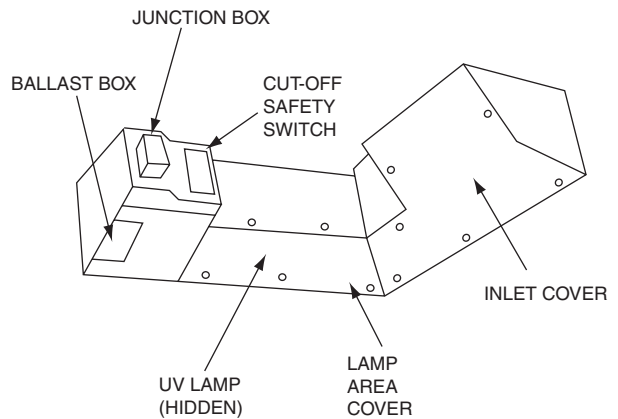

Fig. 4 — Air Purifier Specifications
2. Remove the air purifier from its package. Remove the cover over the lamp area of the air purifier by removing the 5 screws securing it in place. Save screws. Remove the UV lamp shipping package from inside the air purifier. See Fig. 4.
9. The air purifier is shipped from the factory for 120-volt operation; for 240-volt operation, move the ballast switch from the 120-volt setting to the 240-volt setting. The ballast switch is inside the air purifier and can be accessed with the cover open. See Fig. 4.